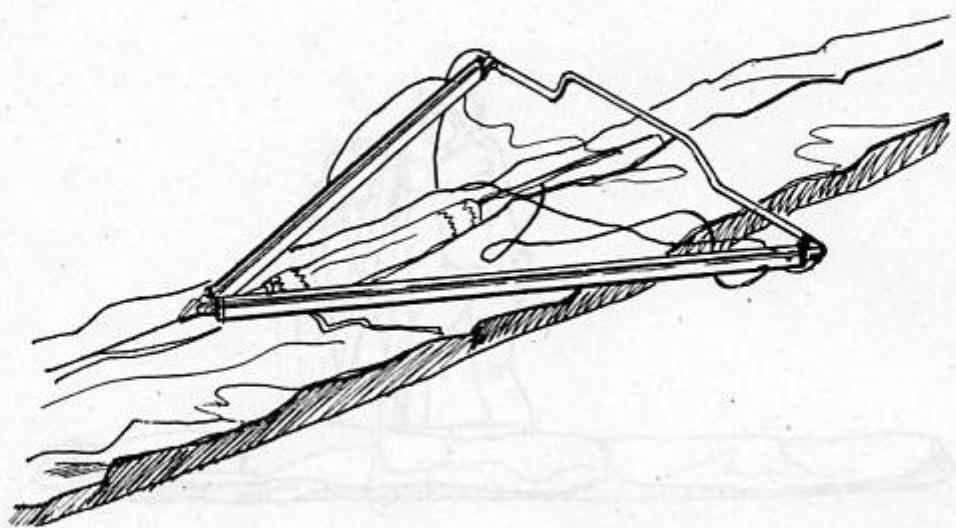

Fig. 3.2.7.
4. Rest the slider on the control bar (Fig. 3.2.7.) & tie.